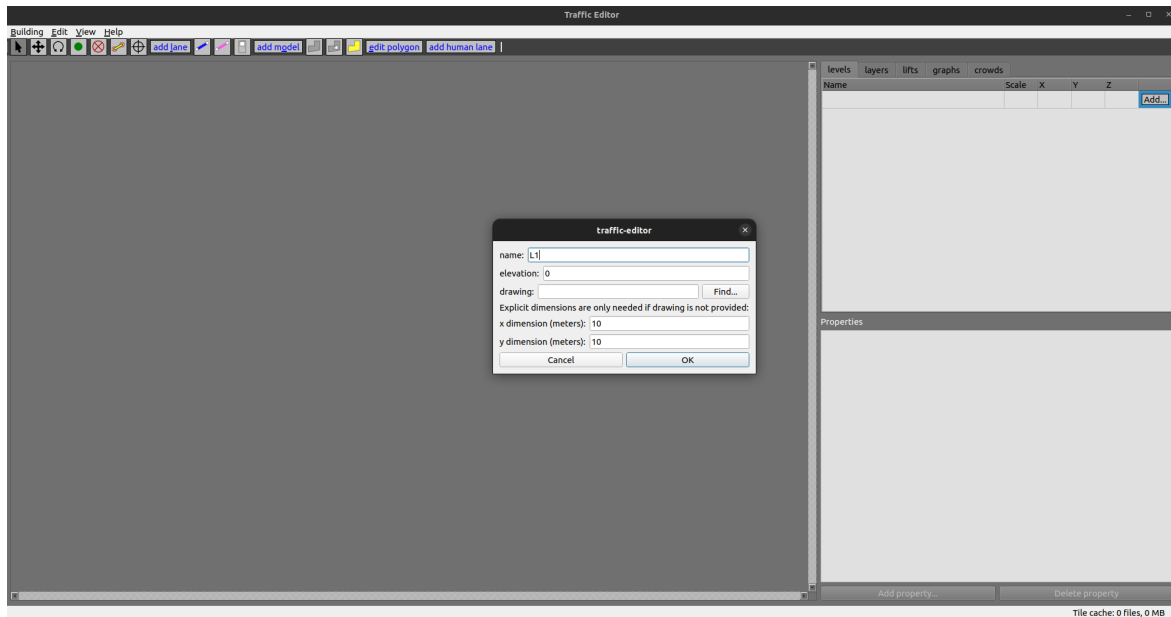

Figure 3: Creating a New Level
- Press the “Add...” button on the top-right side of the screen. Name the level L1 and press OK as shown in the Figure 3.